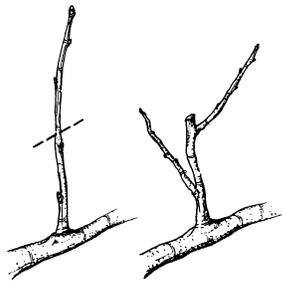

Figure 11. Heading cuts remove the growing tip of a branch releasing side buds to grow.
**Heading cuts** remove the growing tip of a branch. This releases the side buds to grow resulting in a more dense growth at the point of pruning. [Figure 11]